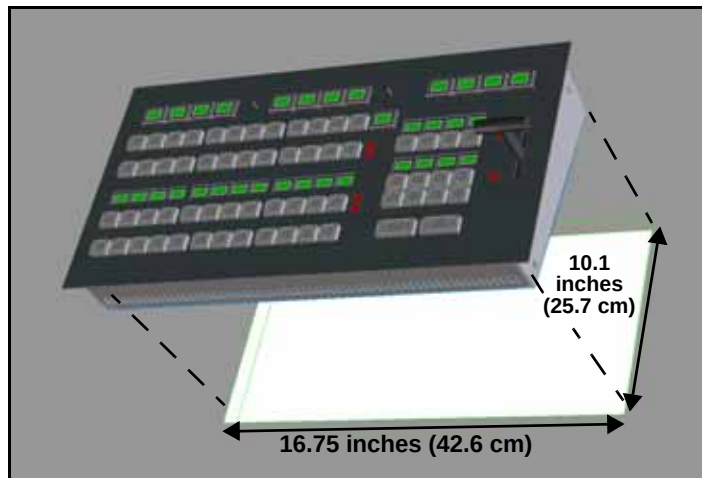
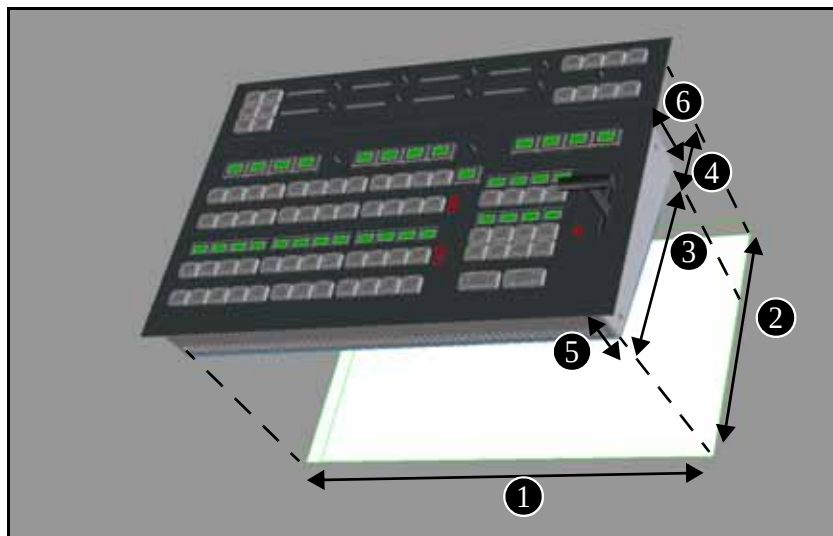

Figure 2-8. Desk or Tabletop Mount of Main Control Panel Alone
Figure 2-9. Desk or Tabletop Mount of Main and Audio Control Panels
1. Using the dimensions shown in Figure 2-8 (for the main control panel only) or Figure 2-9 (for the main and audio control panels together), make a cutout in the desk or tabletop.